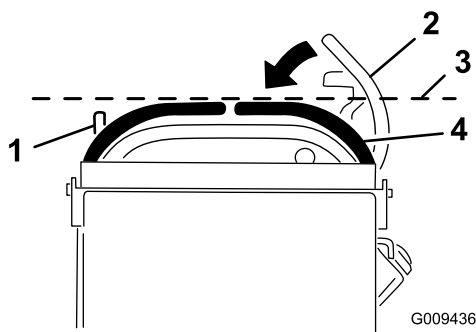

Figure 77
3. Push the right motion-control lever down out of the neutral-locked position (Figure 77).
4. Check if the right motion-control lever aligns horizontally with the left motion-control lever (Figure 77).